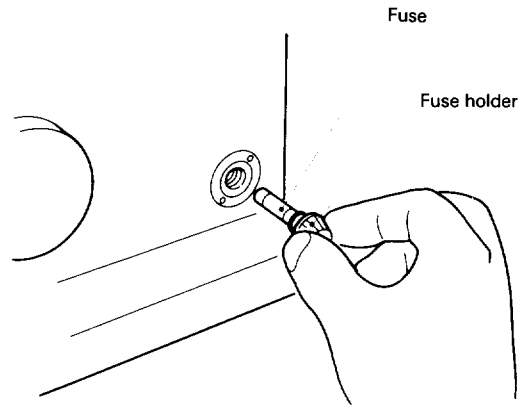

Fig. 20
- Unscrew the fuse holder (13), and exchange the fuse (0.2A). (Fig. 20)